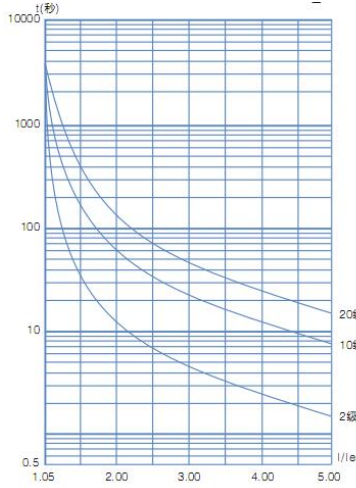

Figure 6.1
6-1-6. Running overload protection time: To set the P6 load regulation rate as the benchmark for anti time thermal protection, protective tripping time curve as shown in Figure 6.1.
(1) Primary protection is against to the function of external terminal instantaneous stop, meanwhile only remains the overheating, short circuit and main circuit fault protection, it can be applied to needed emergency start in unconditional occasion, such as fire systems, etc.
(2) The three protection level of light load, standard load and overload have the complete protection function. The difference is the time curves of motor overloaded thermal protection are not the same. The time parameters of motor thermal protection are as Table 6.1 and Figure 6.1.
(3) High level of protection standards is stringent at start. Other protection features parameters keep the same with standard protection set.